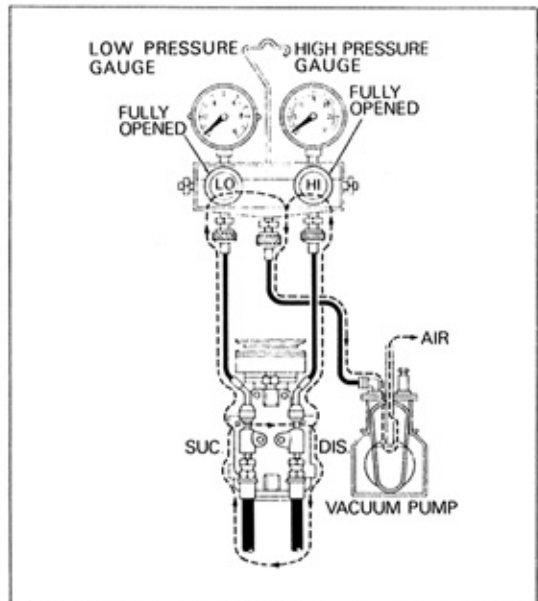

Fig. 89
2. Install the center charging hose of the refrigerant charging gauge to the vacuum pump inlet. See Fig. 89.